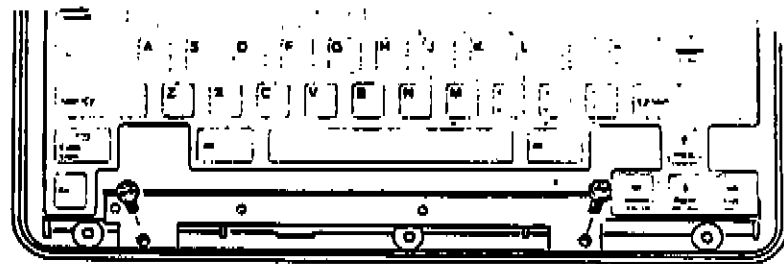

Figure 3-6. Keyboard Screws
Refer to Figures 3-6 and 3-7 for the following steps.
2. Remove the two screws securing the keyboard to the bottom cover, shown in Figure 3-6. Set the screws aside.